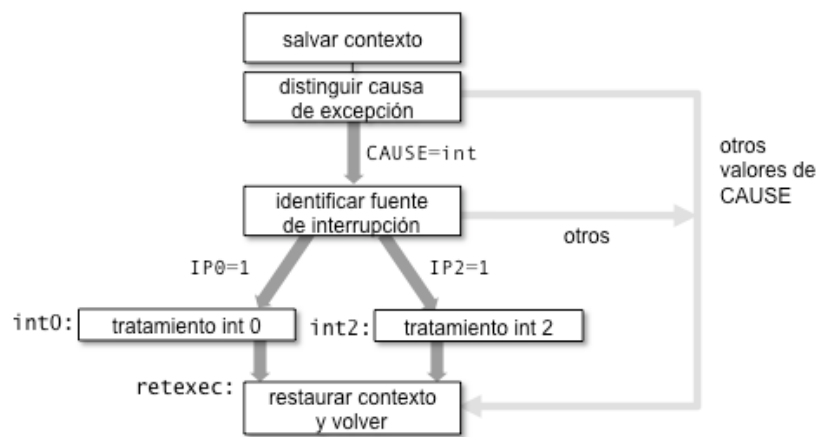

Figure 9. Exception handler execution flow handling two interrupts
It is clear that every interrupt (and in general every exception cause) requires an specific handler. In this step, an small decision tree is going to be added in order to associate every interrupt to its handler avoiding another exception cause to produce an inadequate response. The goal is to achieve the execution flow inside the exception handler shown in figure 9:
- Add a new tag (in figure 9 appears as retexc) that will mark the point on the handler that restores the context and gives the control back to the interrupted program. From now, jumping to this tag inside the handler will be the same as *ending*.